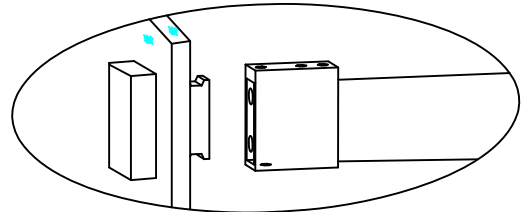

Fig. 13
13. Position the top rail / fixed glass assembly into place in your shower. Loosen the set screws in Rail Mount (22) next to Returned Glass Panel (23). Next connect Rail Mount (22) to stainless steel fitting by sliding rail mount over stainless steel fitting and tightening set screws in rail mount to secure to Top Rail (2). See Fig.13 for details.